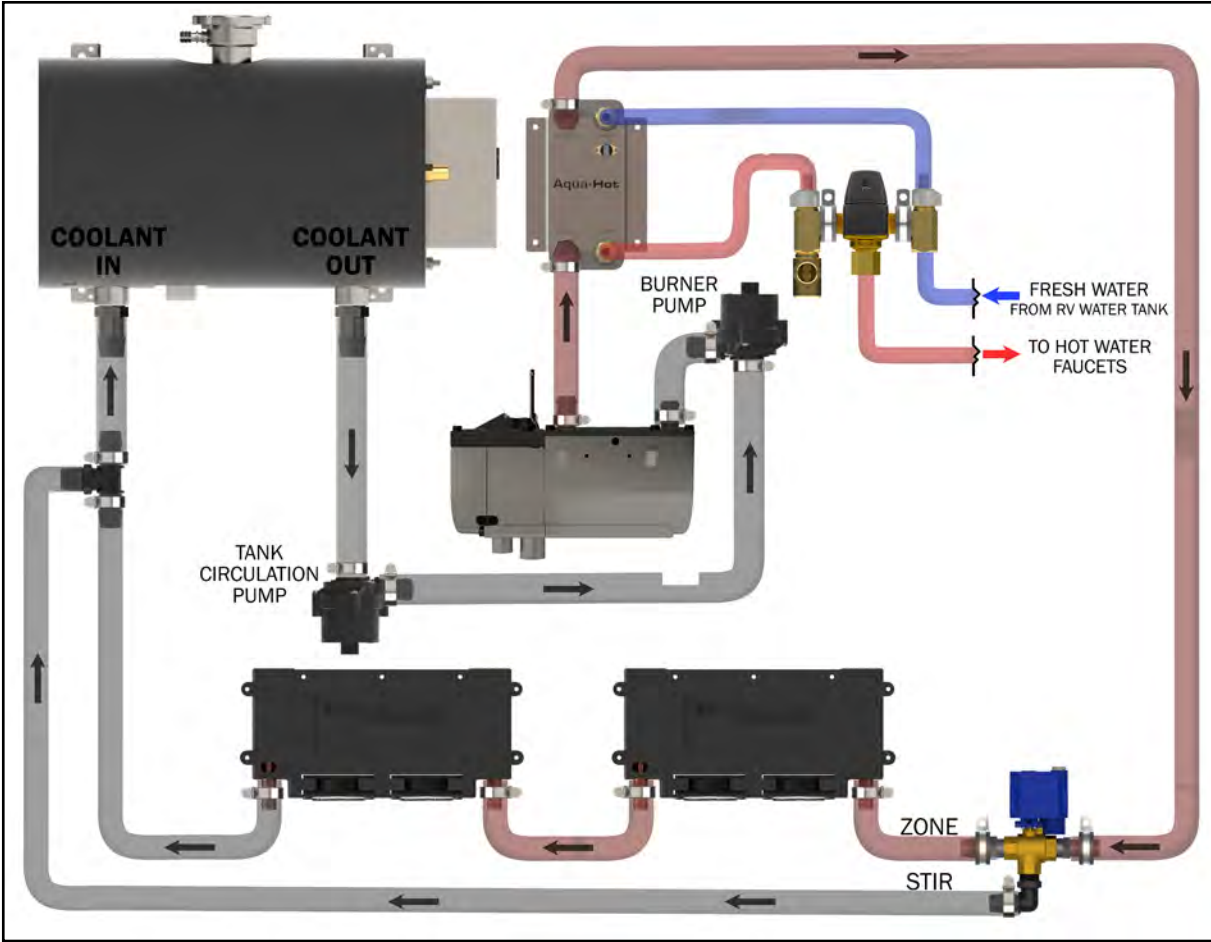

Figure 46
1. Reference Figure 46 for proper system plumbing.
1. Reference Figure 46 for proper system plumbing